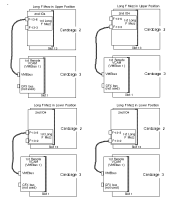

Figure 3-65 Cabling for One Cardcage 3 VMEbus with a Single Long F Mezz Board
5. Working from the front of the chassis, connect each pair of VMEbuses by installing jumper boards in the locations designated in Figure 3-65. Install the two terminator boards as shown.